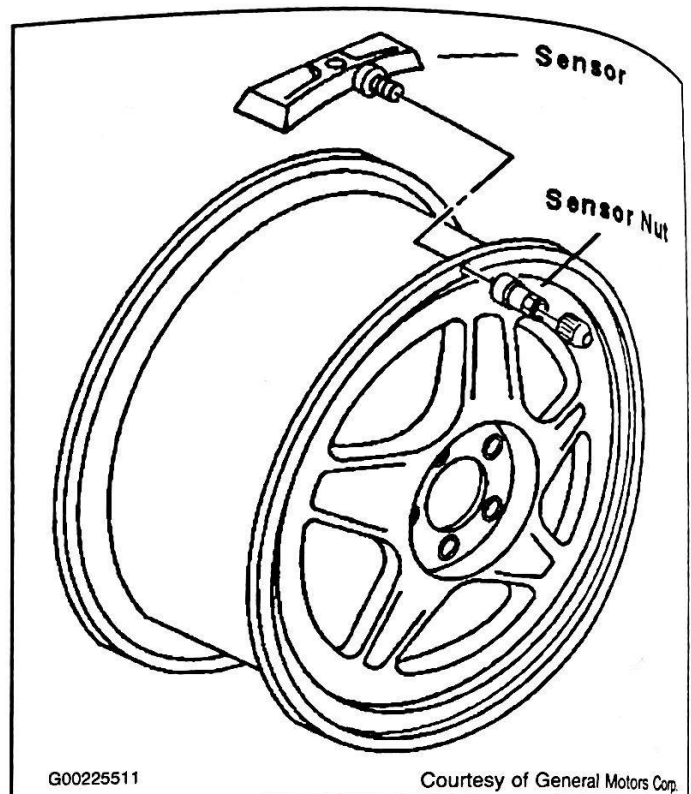

Fig. 1: Exploded View Of Tire Pressure Sensor
3) Remove tire pressure sensor nut. See Fig. 1.